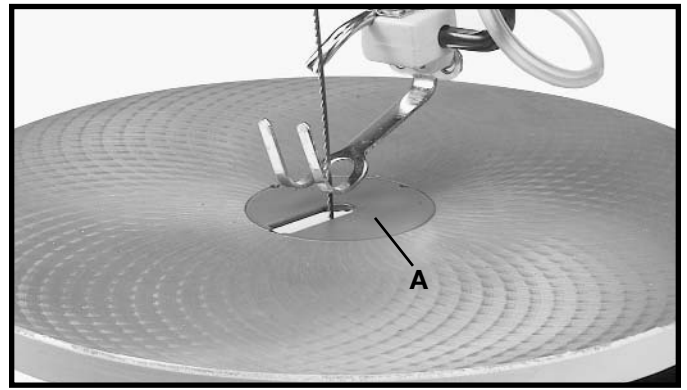
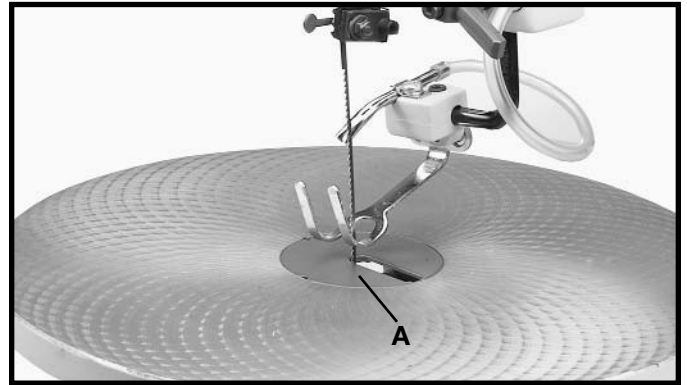

Fig. 19
Fig. 20
The table insert (A) can be assembled to the saw table with the opening in the insert pointing to the front of the table, as shown in Fig. 19, or to the right as shown in Fig. 20.
With the table in the level position, 90 degrees to the blade, the insert (A) should be positioned, as shown in Fig. 19. This allows for the blade to be pivoted forward after it is unclamped from the top blade holder, enabling you to quickly insert the blade into the next hole in a pattern when doing inside-cutting.
When tilting the table for bevel cutting operations the insert (A) should be positioned as shown in Fig. 20. This allows for clearance of the blade when the table is tilting.